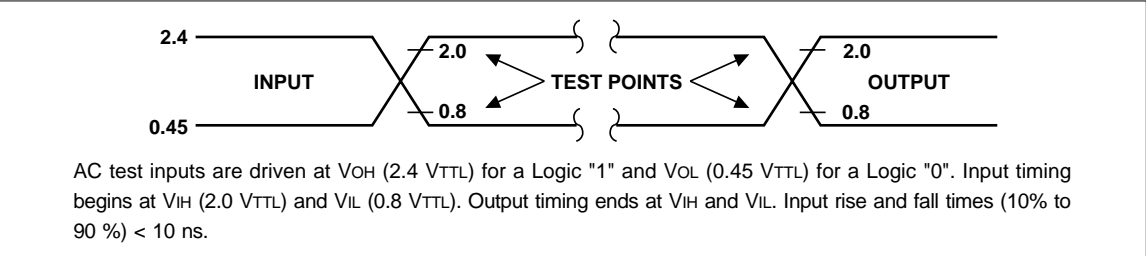

Fig. 11 Transient Input/Output Reference Waveform for Vcc = 5.0±0.5 V
1. See AC Input/Output Reference Waveform (Fig. 9 through Fig. 11) for maximum allowable input slew rate.